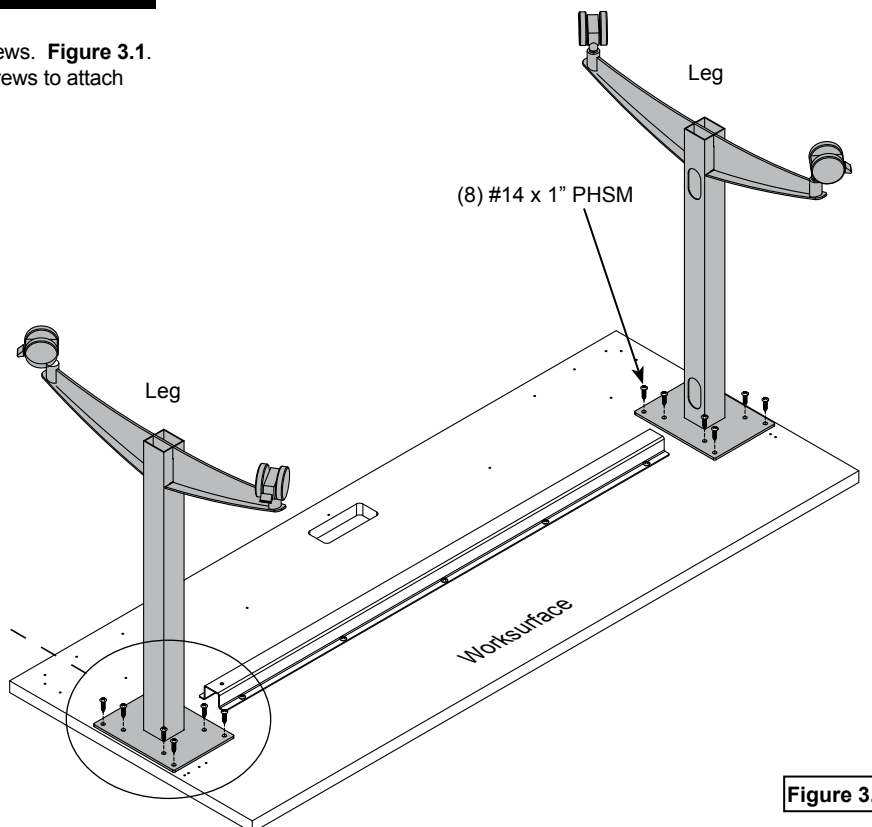

Figure 3.1
1. Attach each leg as shown with (8) #14 x 1" PHSM screws. **Figure 3.1.**